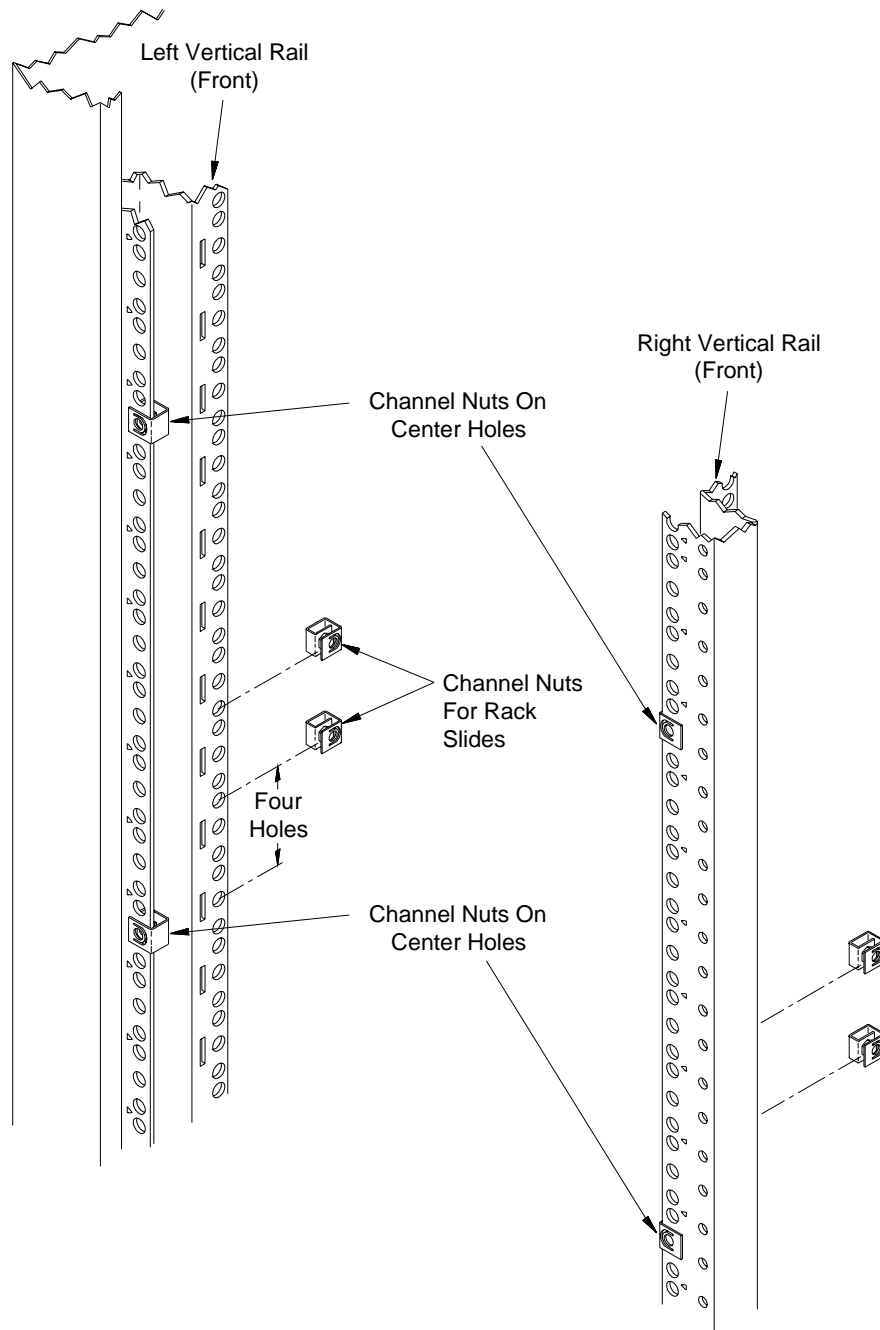

Figure 2-7. Positioning the Rack Slides (using Option 923 - standard adapters).
4. From the bottom channel nut inserted in Step 3, count up four holes. Slide a channel nut over the corresponding hole on the inside vertical rail (Figure 2-7). Install a second channel nut on the inside rail four holes above the first nut. Repeat for the other rail. Install channel nuts on the corresponding holes on the rear inside rails.